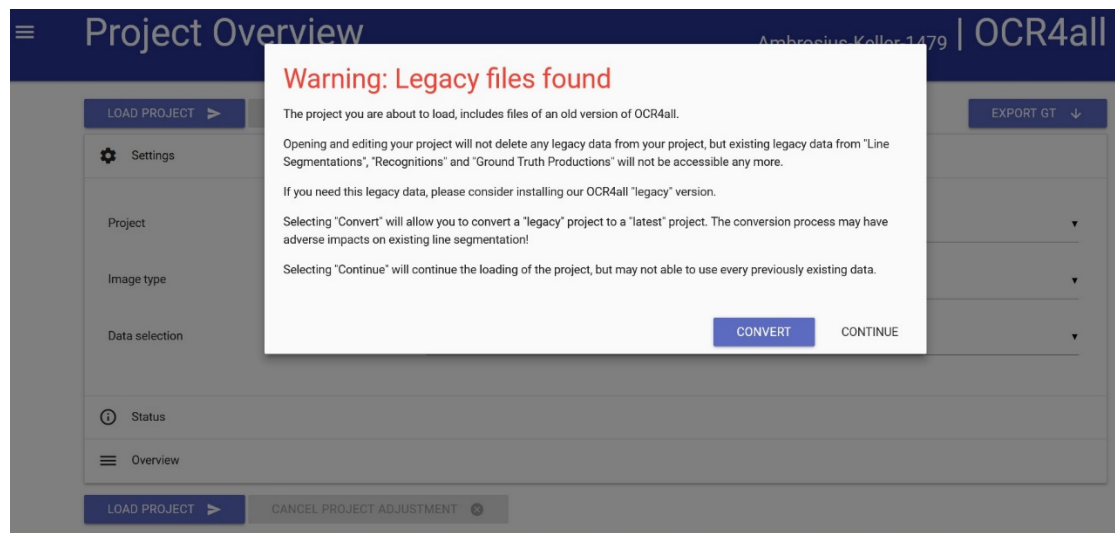

fig. 4: possible conversion of a Legacy-Project.
- The feature "**Overview**" provides the user with a tabular presentation of the project's ongoing progress (fig. 4). Each row corresponds to an individual book page, labelled by a page identifier (far left column). The following columns illustrate, from left to right, the workflow's progression. Once a particular step has been executed, it will appear as completed (green check mark) in that work stage's specific column.